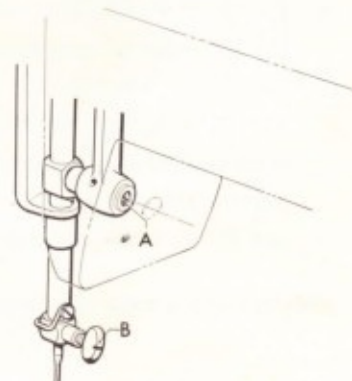

Fig. 8
3. Adjust the height of needle bar, loosening the screw (A) in Fig. 8.
4. After adjustment of the height, tighten screw (A) securely.